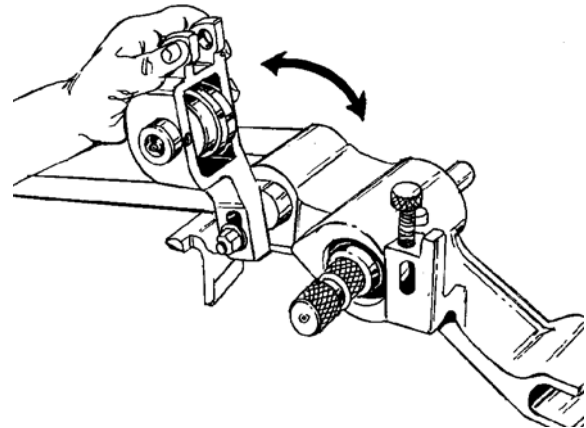

Figure 15 – Raise Up Roll Housing
5. Raise up groove roll housing. (Figure 15)